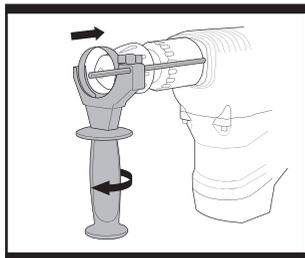

Fig. 1
1. INSTALLATION DE LA POIGNEE AUXILIAIRE (Fig. 1)